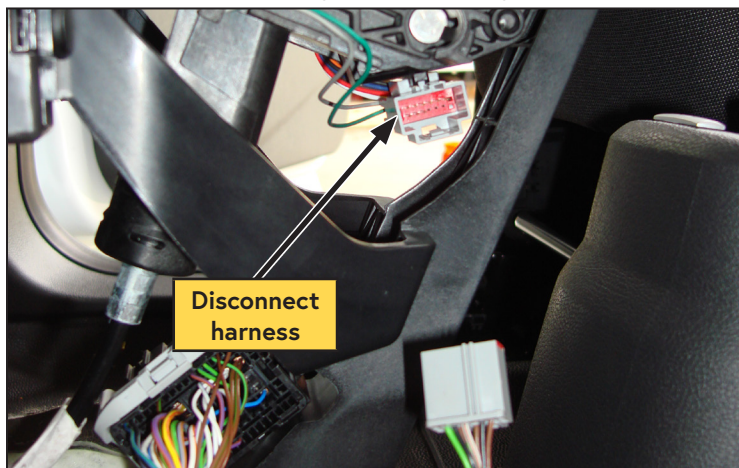

Figure 61 — Park interlock wire
- Unplug the connector at the bottom of the gear selector and splice the blue wire from the Throttle Control to the white/brown wire at pin 10 on the harness. Plug the connector back into the gear selector (Figure 61).